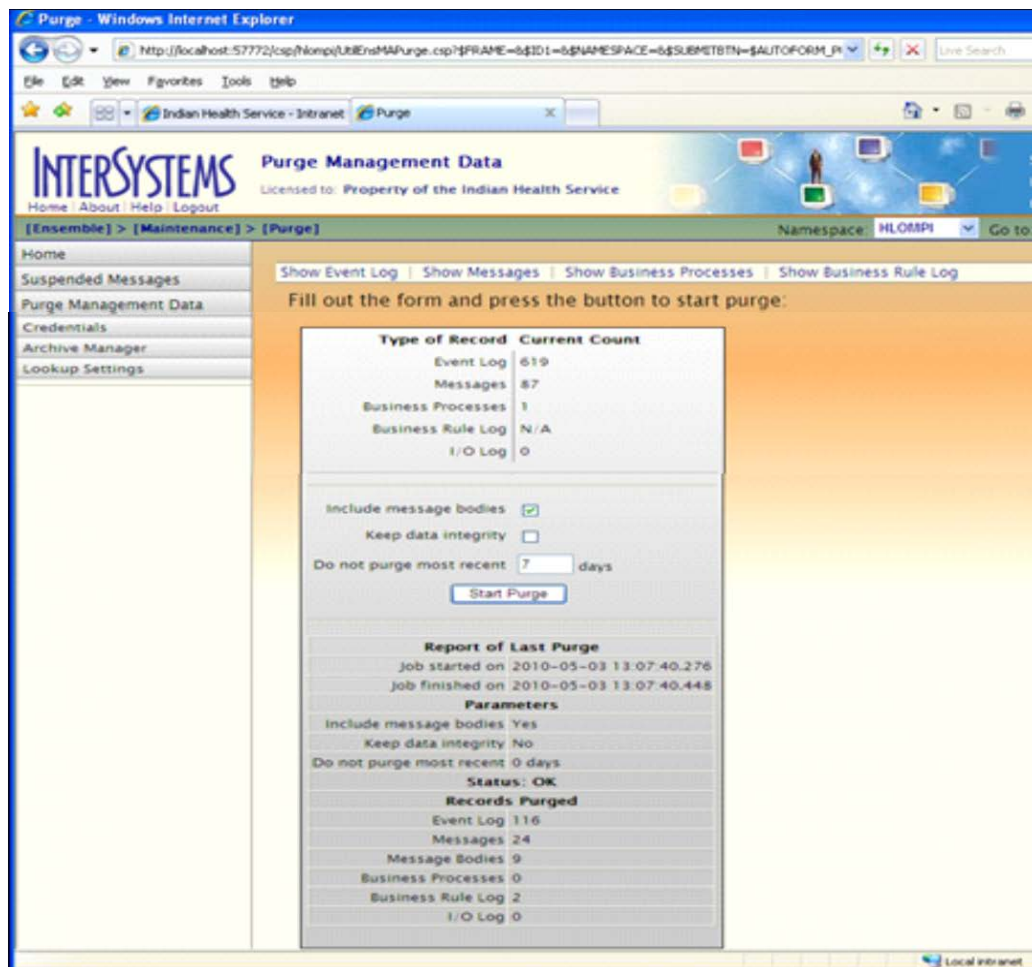

Figure 5-1: Purge Management Data page
2. On the Maintenance menu, click **Purge Management Data** to display the **Purge** page, as shown in Figure 5-1.